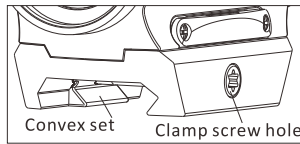

Fig 4
2. Firstly insert the Allen wrench into the clamp screw hole, then rotate to loosen the convex set, slid the sight into the weapon rail to a right position, and finally fasten the clamp screw.(Fig4)